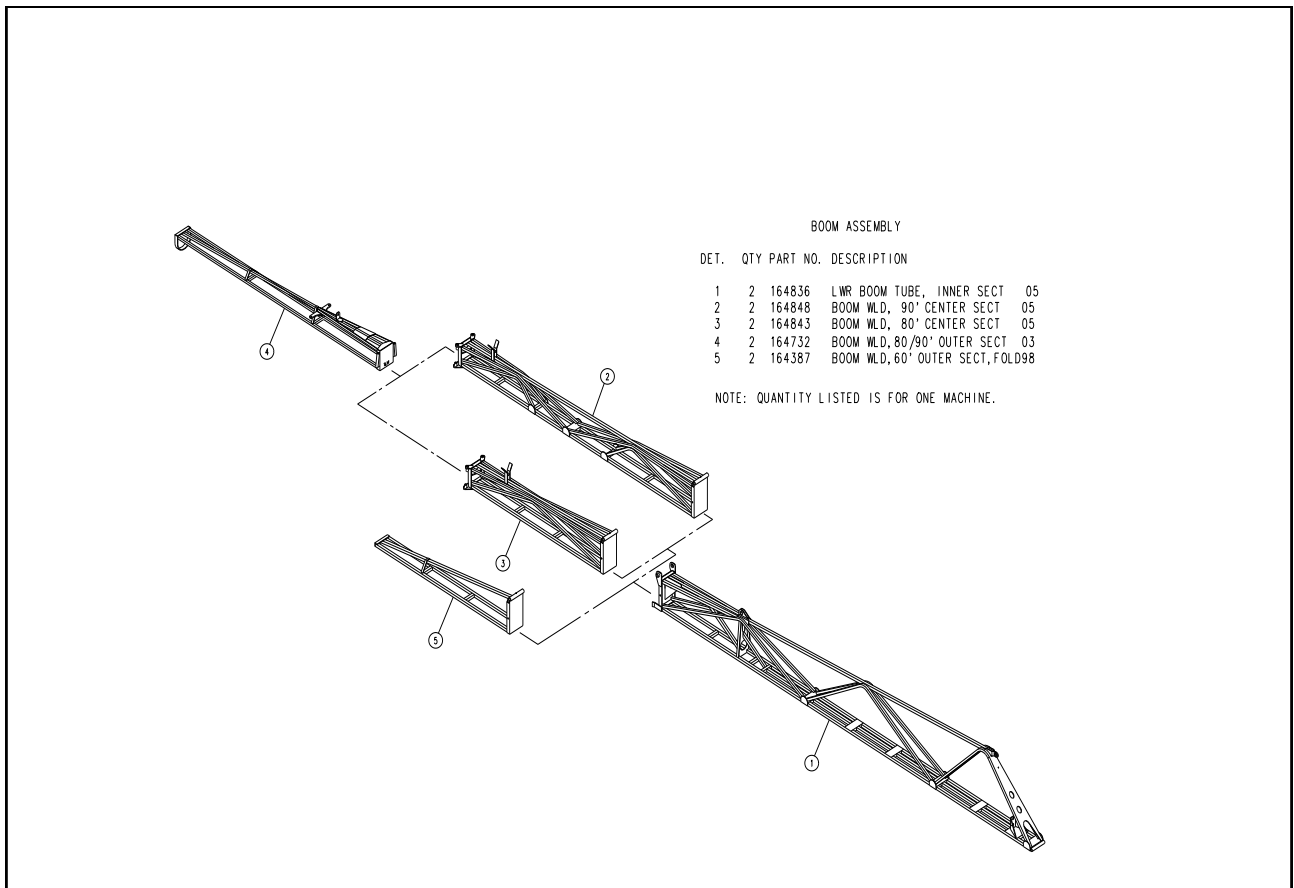

FIG 4.7
3. The booms come in 60', 80', or 90' lengths (fig. 4.7). Refer to the parts manual for detailed drawings for the correct hardware and hydraulic components when attaching to the transom.